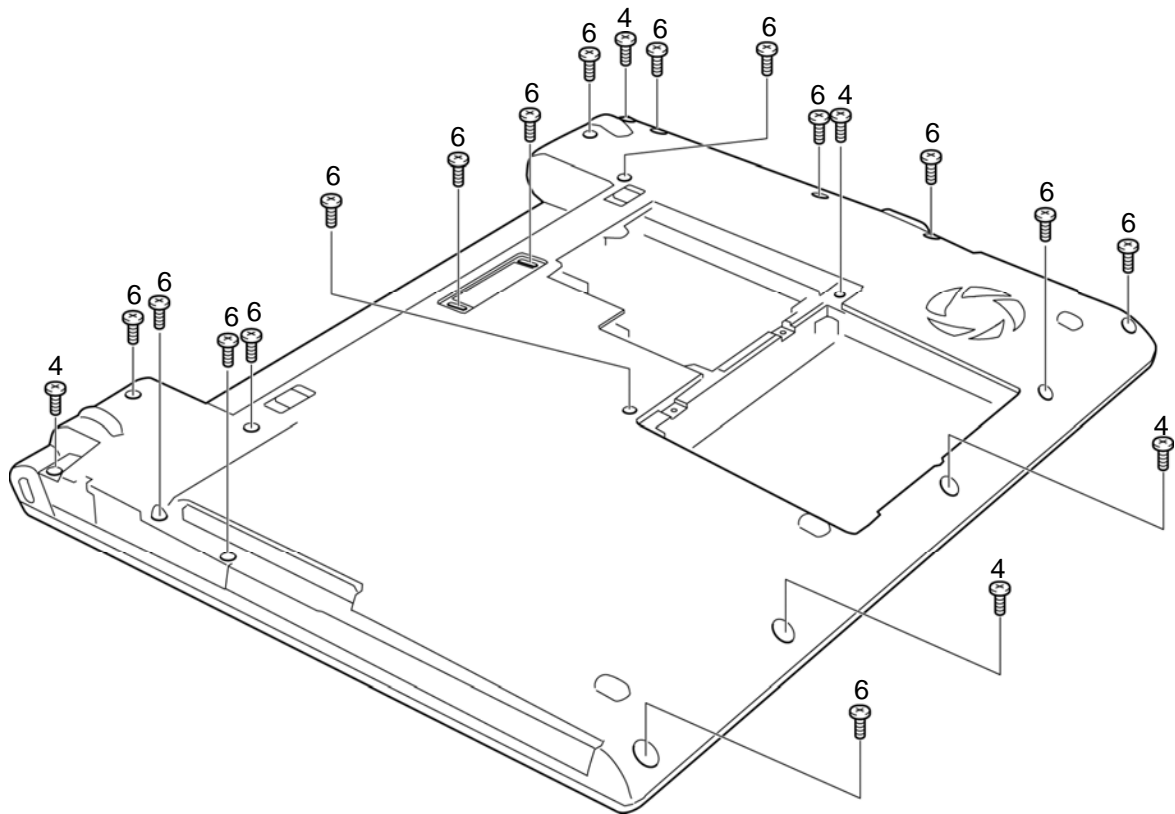

Figure 4-12 Removing the base assembly (2)
- M2.5×6B FLAT HEAD screw ×15 (Described as “6” in the Figure 4-12)
- M2.5×4B FLAT HEAD screw ×5 (Described as “4” in the Figure 4-12)